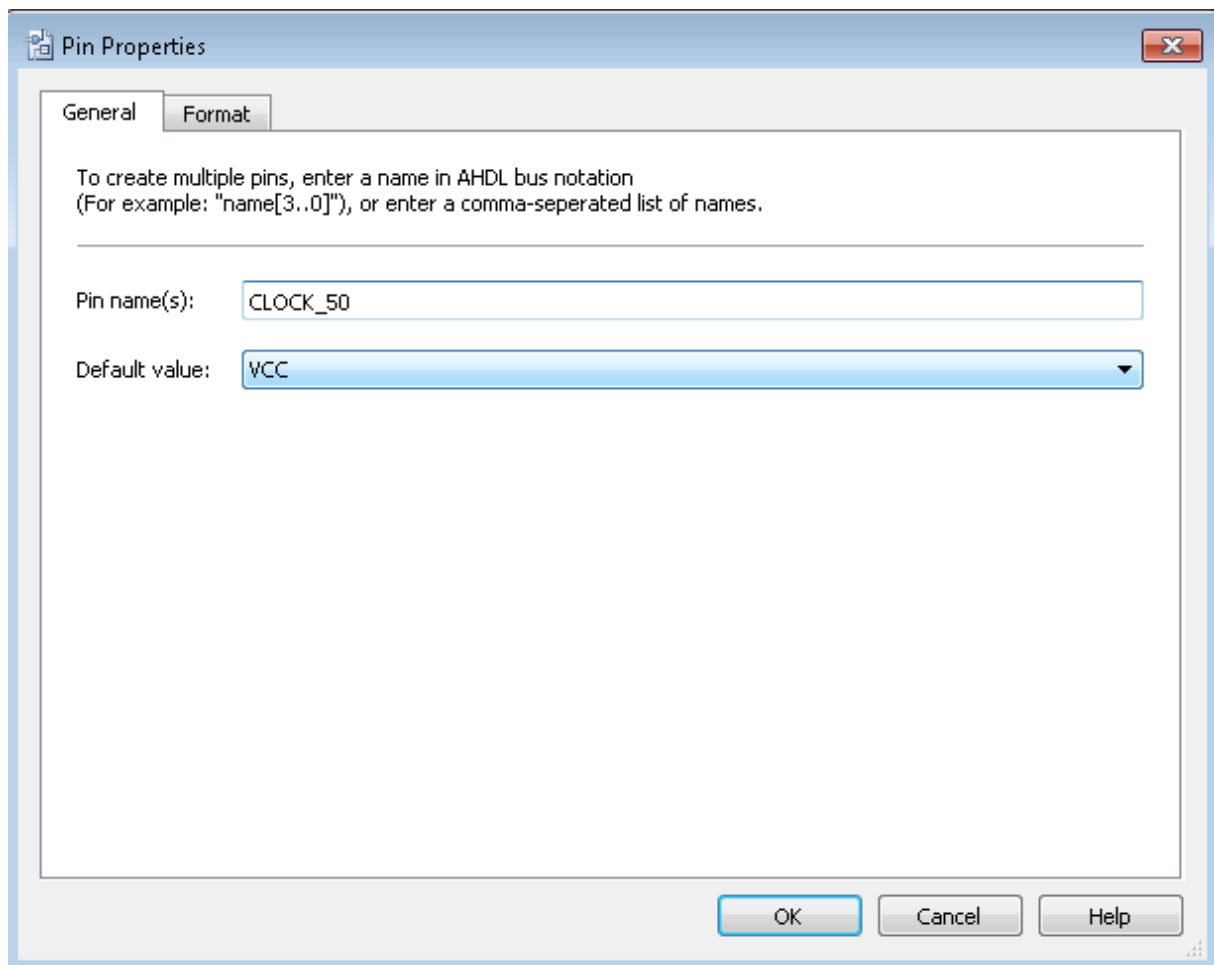

Figure 3-18 Change the input port name
- f. Change the pin name by double-clicking pin_name and typing CLOCK_50 (see **Figure 3-18**). This name correlates to the oscillator clock that is connected to the FPGA.